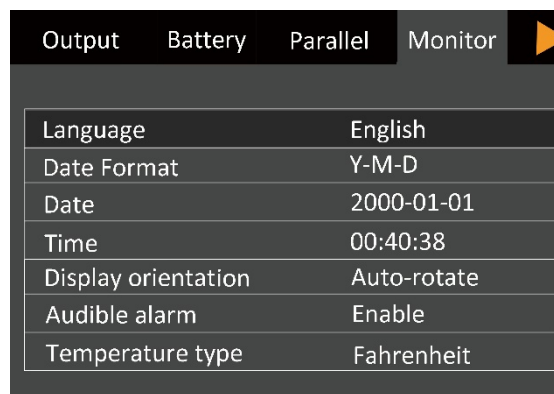

Figure 5-17 Changing Language
4. Press the  or  key to select your required language, then press the  key to confirm. At this point the LCD information will be displayed in your selected language. See Figure 5-17.